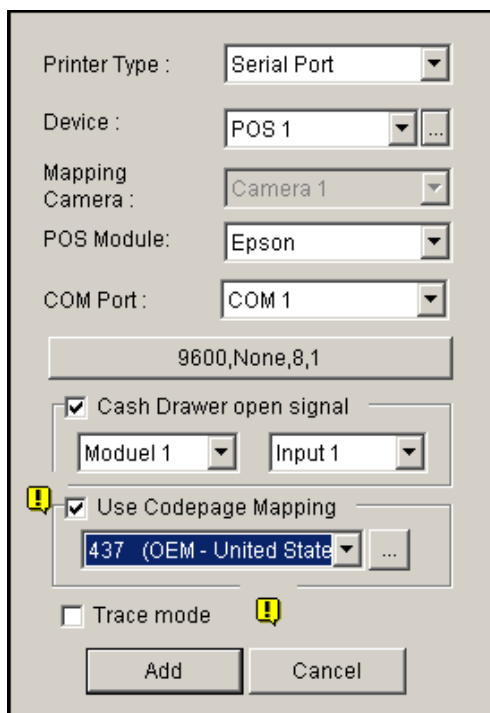

Figure 3-3 POS system settings
1. In Figure 3-3, enable **Use Codepage Mapping**, and then select a character code from the drop-down list.